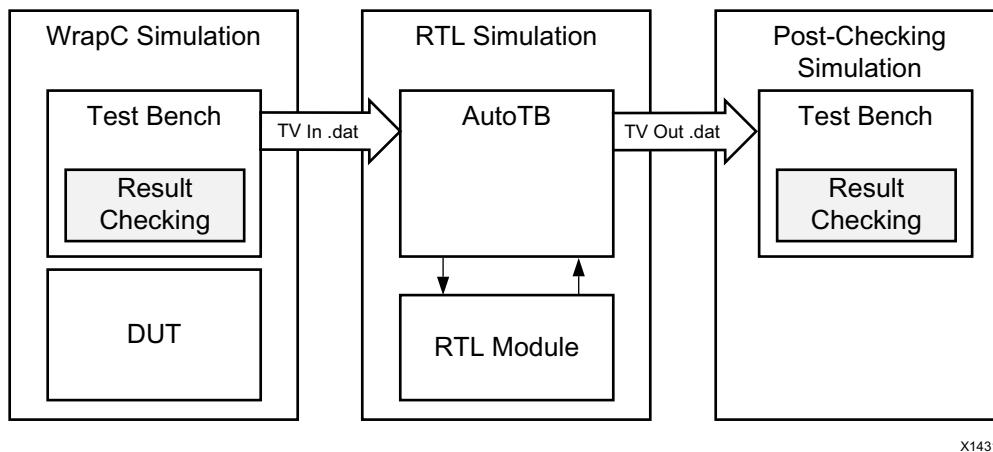

Figure 1-82: RTL Verification Flow
C/RTL co-simulation uses the C test bench to automatically verify the RTL design. The verification process consists of three phases, shown in Figure 1-82.
- Reduce Disk Space: The flow shown Figure 1-82 saves the results for all transactions before executing RTL simulation. In some cases, this can result in large data files. The `reduce_diskspace` option can be used to execute one transaction at a time and reduce the amount of disk space required for the file. If the function is executed N times in the C test bench, the `reduce_diskspace` option ensures N separate RTL simulations are performed. This will cause the simulation to run slower.